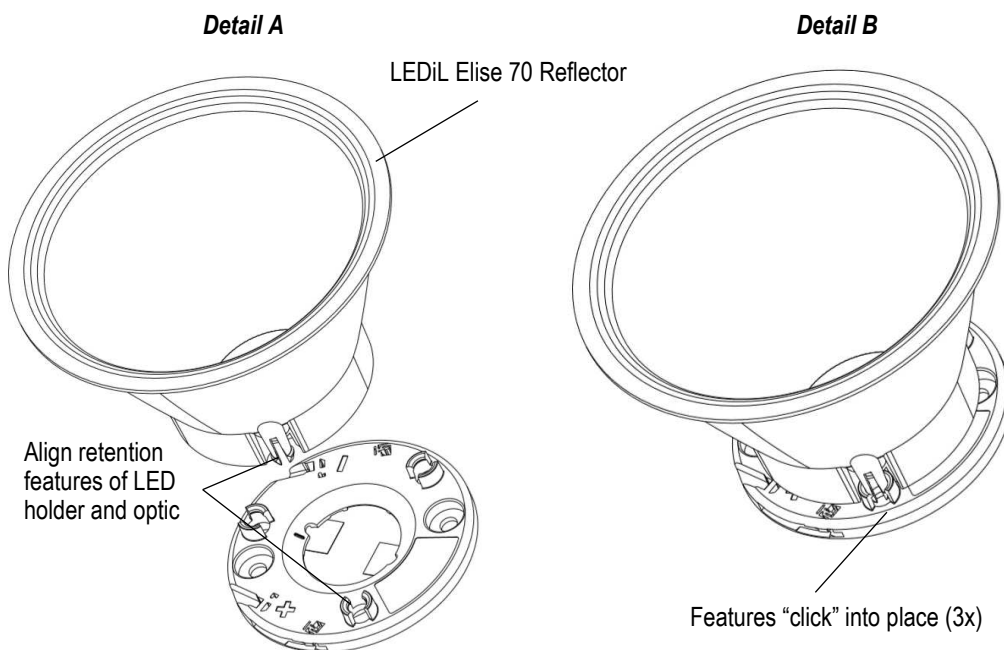

Figure 5
1. Align the reflector mating features with the LED Holder Reflector snap in feature (3 total) and snap in the reflector vertically into the LED holder. Push the reflector in until an audible “click” is observed, and the reflector sits flush against the LED Holder. See Figure 5, Detail A and B.